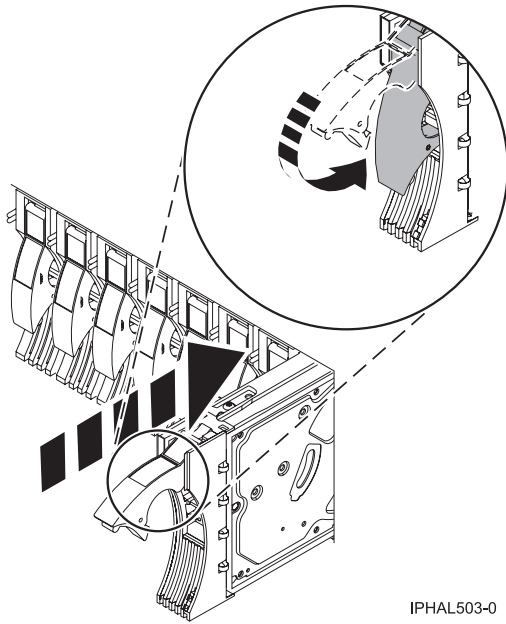

Figure 102. Installing a disk drive in a model a model or 7311-D20
- c. Push the disk drive handle in until it locks, as shown in Figure 102 on page 114.